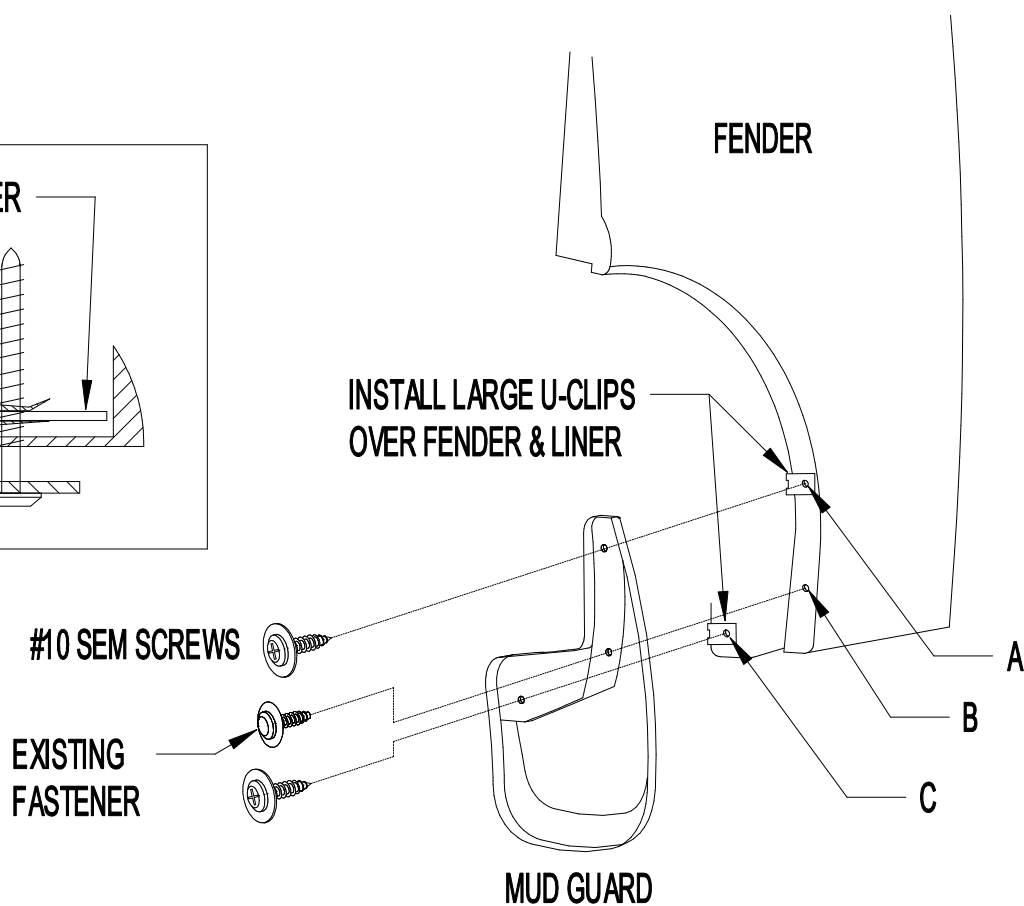

Figure 1
- #10 SEM Screw (4)
- Large U-clips (4)
1. Remove existing fastener from location B (Figure 1).
4. Remove mud guard and install u-clips at locations A and C. Install u-clips over fender and fender liner and align drilled and u-clip holes (Figure 1 and 2).